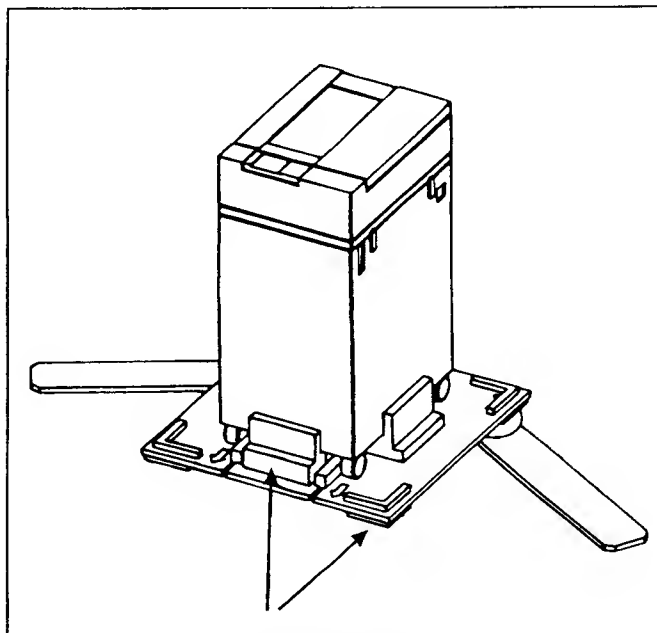

Figure 2-4. Step d.
- d. Rotate wood slides by removing bolts. Remove front cushion skids and support blocks (Figure 2-4).